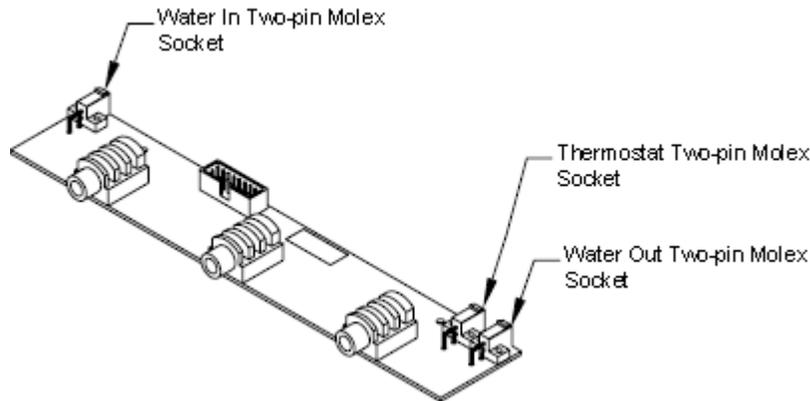

Figure 6-18: Socket Location
4. Disconnect the water-out and thermostat two pin Molex connectors from the Human Sensors board (see Figure 6-18).
4. Disconnect the Water-in pin Molex connectors from the Human Sensors board (see Figure 6-18).